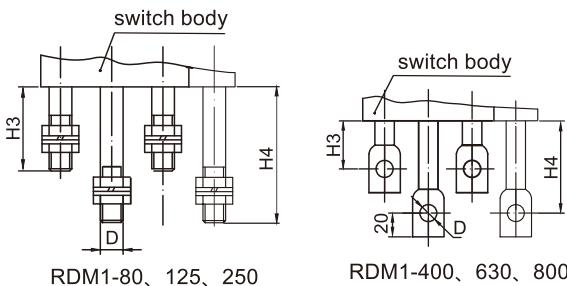
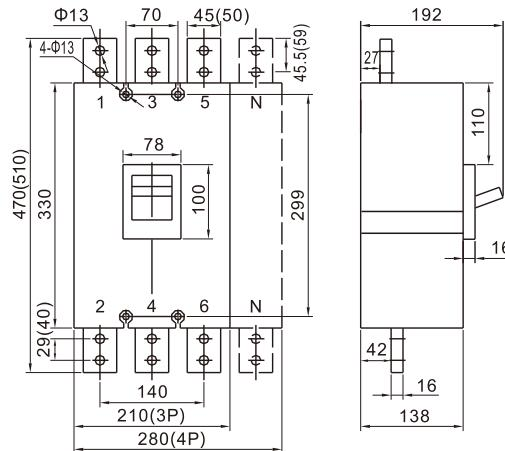

Fig 8 RDM1 Rear wiring installation dimension
Fig 12 RDM1-1250/1600 circuit breaker overall and installation dimension (Figure in brackets is the dimension of 1600A circuit breaker)
RDM1-80~800A Front wiring overall and installation board hole-opening dimension, see Fig. 12, Fig. 8 and table9
6.2 Rear wiring overall dimension, see Fig 8 and Table 10.